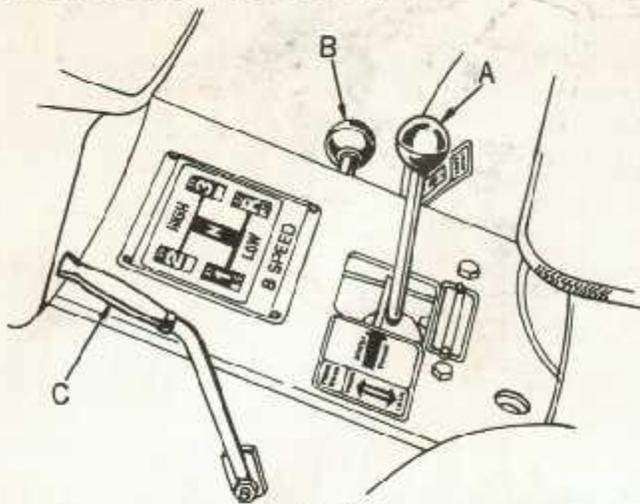

FIG. 8
1. Open fuel tank shut-off valve (A). Close shut-off valve after each days use.
- a. Transaxle (transmission) gear shift lever (A, Fig. 8), is in NEUTRAL. NOTE: A safety feature has been incorporated on the gear shift lever. This lever must be in neutral (directly inline with the arrow on the decal located on left, top side of chassis assembly), before Tractor will start.